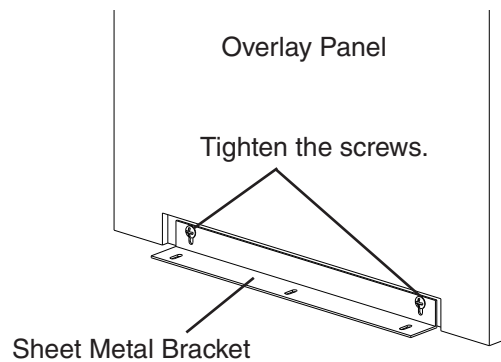

Fig. 16
- 4) Remove the overlay panel from the door and tighten the two M4x8 truss head screws securing the sheet metal bracket to the overlay panel. See Fig. 16.